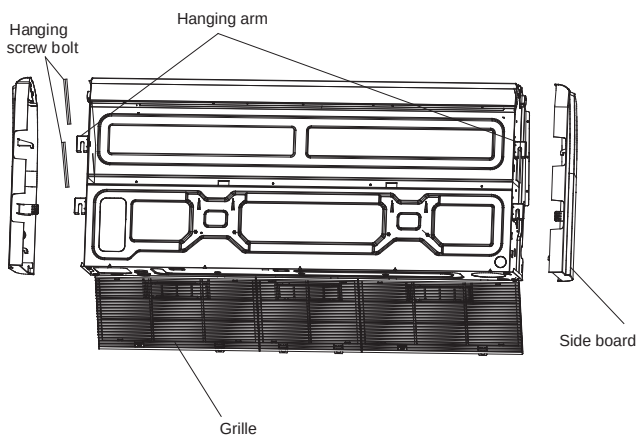

Fig.5-8
- Remove the side board and the grille.(Refer to Fig. 5-8)